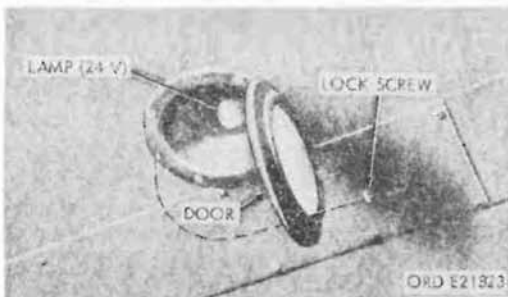

Figure 388. Dome light removal - 24-volt
- (d) Attach the harness to truck electrical system at same location as tagged in (1)(b) above.
(1) Removal (fig. 388).